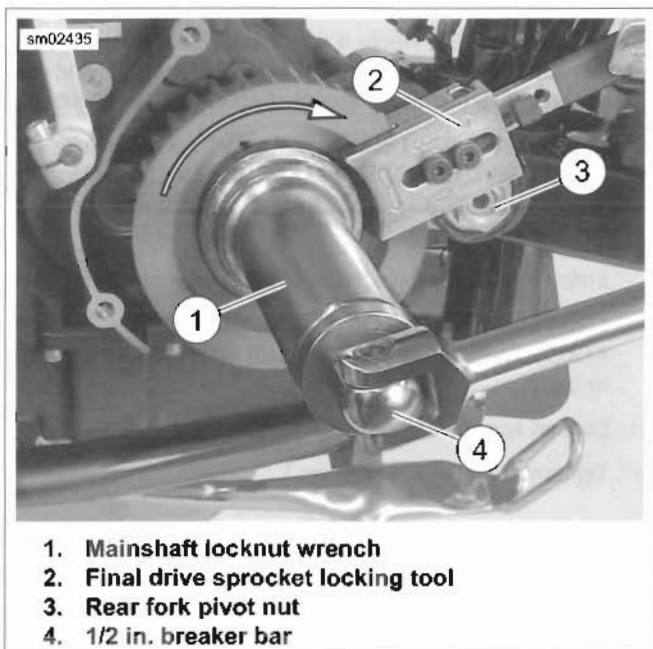

Figure 5-39. Sprocket Nut Installation (Typical)
4. See Figure 5-39. Lock transmission sprocket with the FINAL DRIVE SPROCKET LOCKING TOOL (Part No. HD-46282A) (2). The locking tool must rest against the rear fork pivot (3).